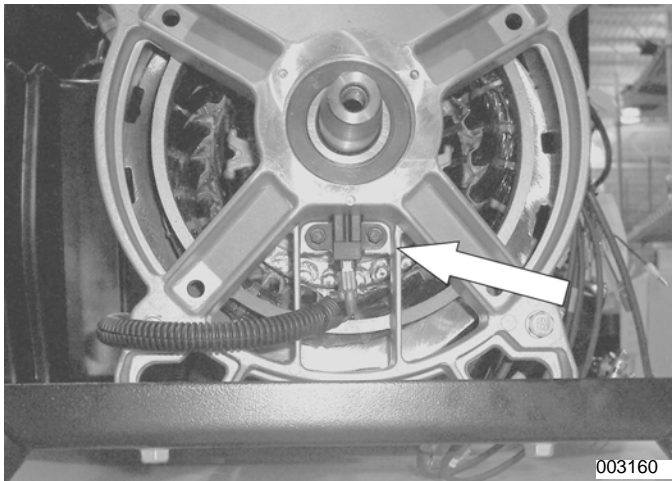
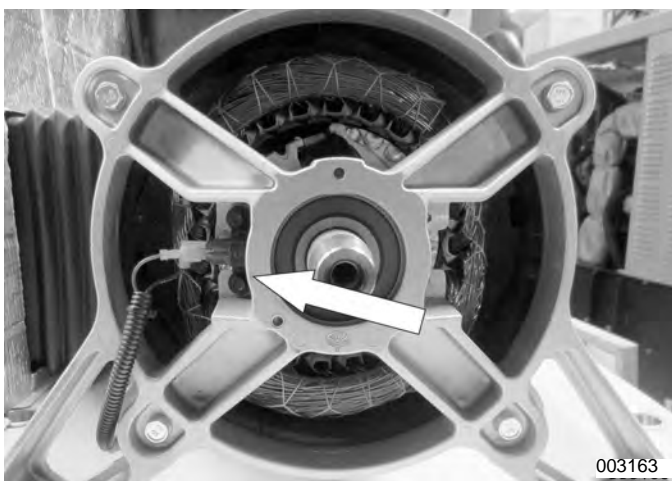

Figure 5-58. Brushes on Nexus Unit
Figure 5-59. Brushes on Evolution Unit
19. **Remove Brushes:** See Figure 5-58 and Figure 5-59. Use a 7 mm socket to remove brushes.
20. **Remove Brush Wires:** See Figure 5-58. Use a side cutters to remove the tie wraps securing the brush wires to the outside of stator.